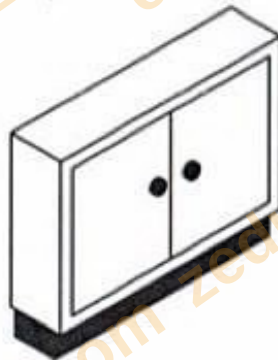

Figure 3
- 3 **Figure 3** shows a cabinet to be used in the workshop for storing tools.